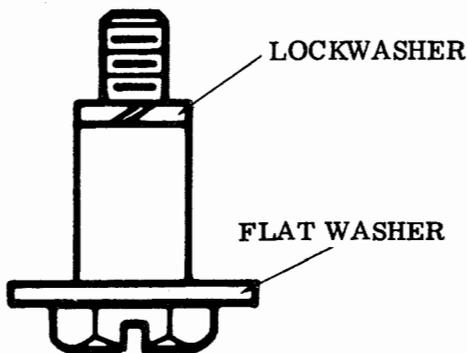

Figure 10 - Shoulder Screw
4.06 The keyboard and cover assembly is secured to the table top by four shoulder screws mounted from the under side of the table top. Align the four weld nuts on the bottom of the pan assembly with the four cutouts and rubber grommets in the table top. With the four shoulder screws (TP333169, Figure 10) and associated washers from the muslin bag tied to the pan assembly, secure the pan assembly to the table top.